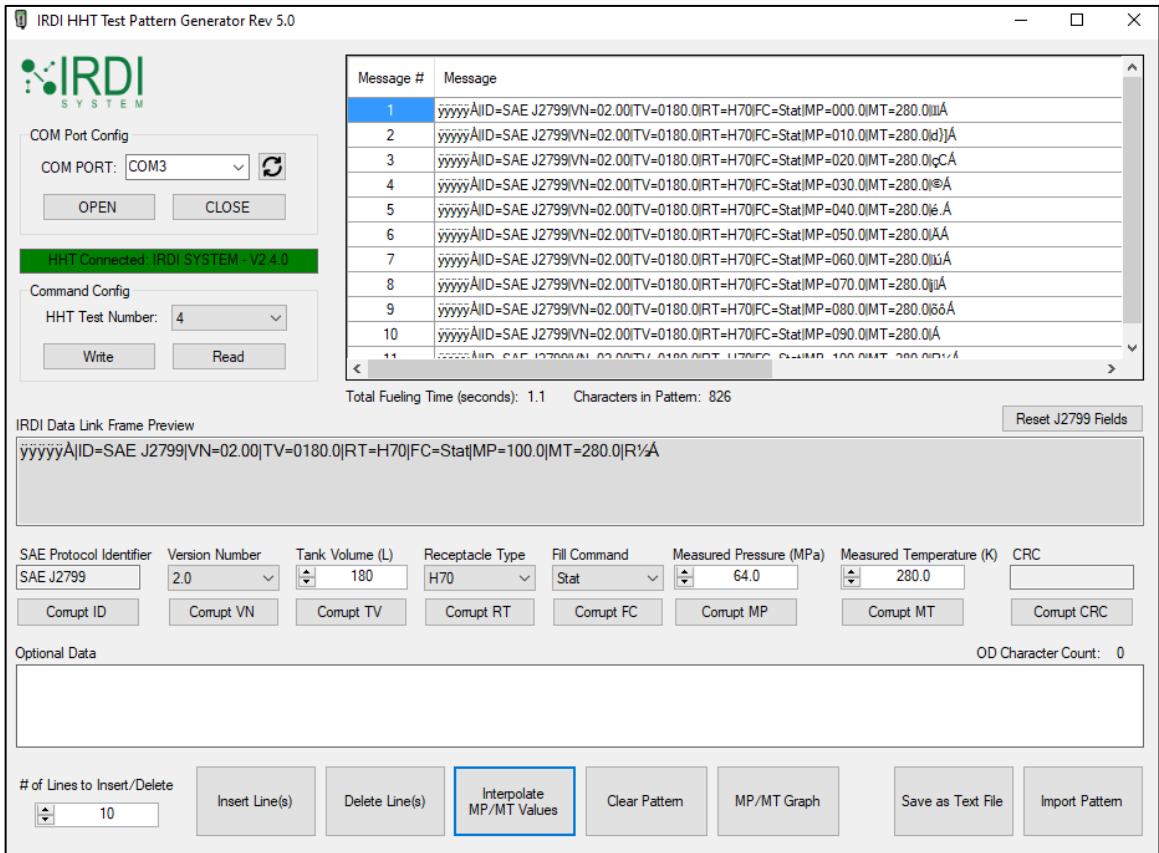

FIGURE 6-34 HHT TEST PATTERN GENERATOR SOFTWARE –MP LINES ADDED (# OF LINES)
STEP 7	<p>View the interpolated test pattern on the main screen, in the top right area – see Figure 6-34.</p> <p>You can now program the HHT with this test pattern – refer to Section 6.5 for details.</p>